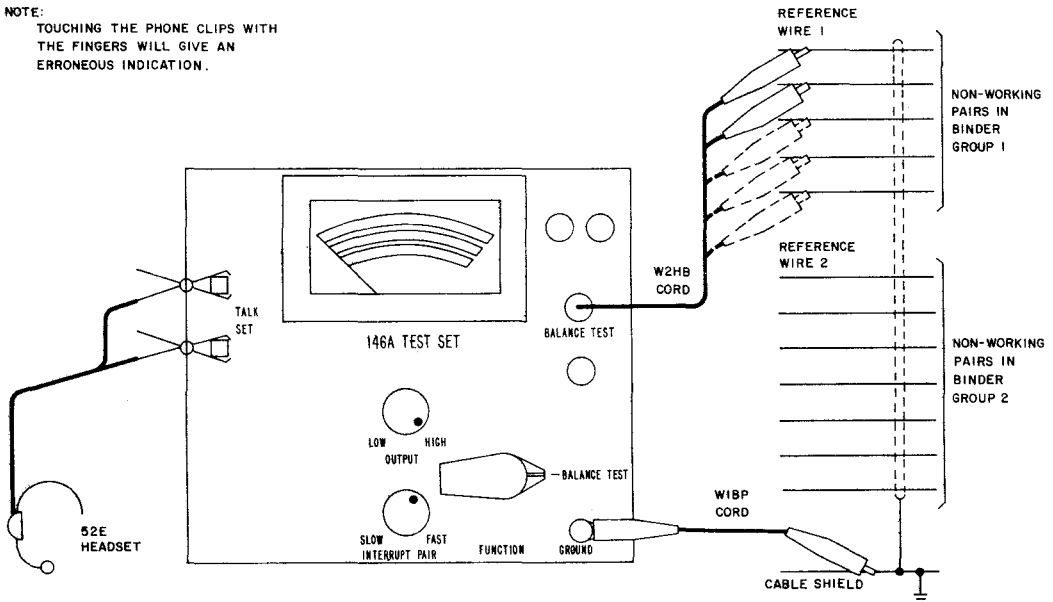

Fig. 14—Balance Testing
6.01 Referring to Fig. 14, connect the GROUND post on the test set to the cable shield using the W1BP cord.